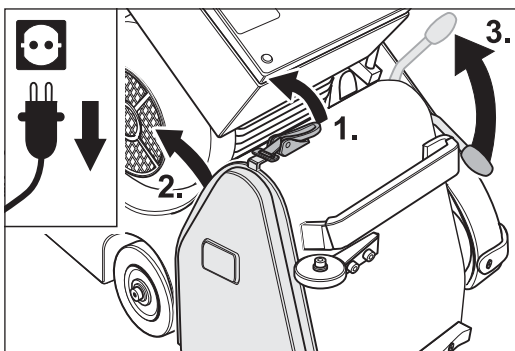

Fig. 27 Release the cover lock (1.), remove the side cover (2.) and lower the tensioning roller by pulling up the operating lever (3.).
- 3 Release the cover lock (Fig. 27, 1.) and remove the side cover on the right of the machine housing (Fig. 27, 2.).
- 4 To release the tension of the sanding belt, pull the operating lever of the drive unit upwards (Fig. 27, 3.). This will lower the tensioning roller.